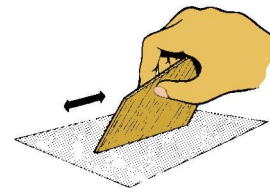

Figure 4
- **Step 6** Cut out all of the fins from 3/32" thick sheet stock. Use 400-grit paper to sand the flat surfaces of all the pieces, and to round over all of the **outer** edges. Do not round over the **root** edges of the fins. As shown in Figure 4, square up the root edges so that the glue surface is as flat as possible with respect to the body tube.